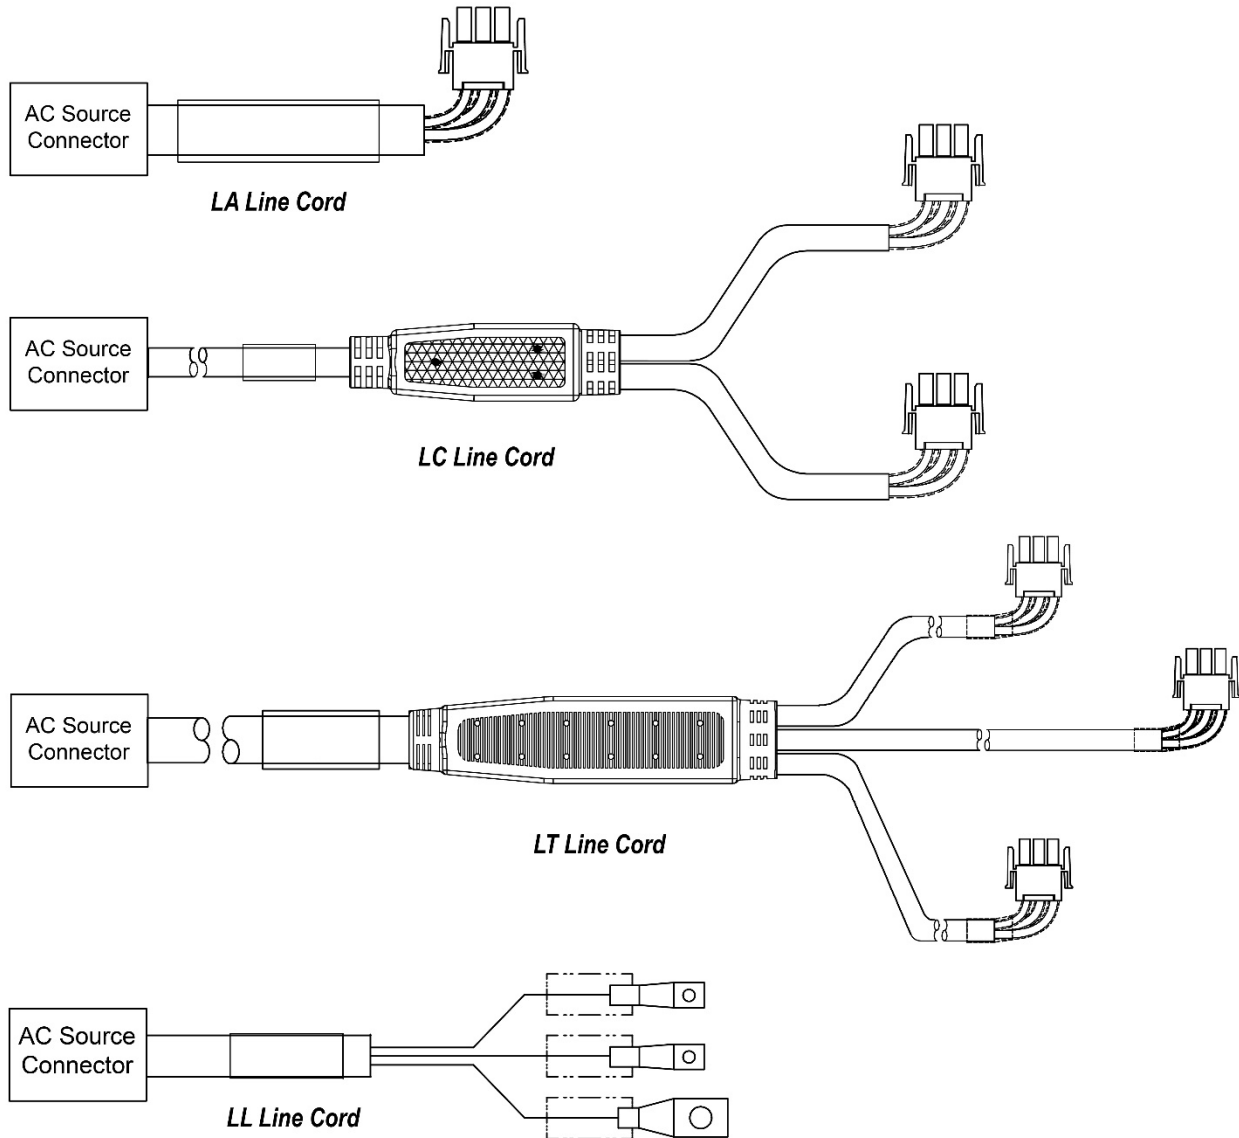

Figure 12 - Line Cords
- Systems with terminal blocks have knockouts for ¾” conduit. 2RU systems have two (2) knockouts per side; 3RU systems have three (3) knockouts per side. If necessary, punch-out tools can be used to make knockouts for larger conduit.
- AMP connections are made with line cords, which are available for either individual (LA cords) or dual (LC cords) input; see Figure 12, page 25 (line cords must be ordered separately; see the *Unity Power Systems Product Guide*, Doc. No. EDM0000299847).
- Systems with terminal blocks have knockouts for ¾" conduit. 2RU systems have four (4) knockouts per side; 3RU systems have six (6) knockouts per side. If necessary, punch-out tools can be used to make knockouts for larger conduit.
- AMP connections are made with line cords, which are available for either two rectifiers per input (LA cords), four rectifiers per input (LC cords), or six rectifiers per input (LT cords) see Figure 12, page 25 (line cords must be ordered separately; see the *Unity Power Systems Product Guide*, Doc. No. EDM0000299847).
Line cords are an option to make input connections on all systems, except for Flatpack2 systems with terminal block connections. Line cords are sold separately; see the *Unity Power Systems Product Guide*, Doc. No. EDM0000299847. Figure 12 illustrates these line cords.